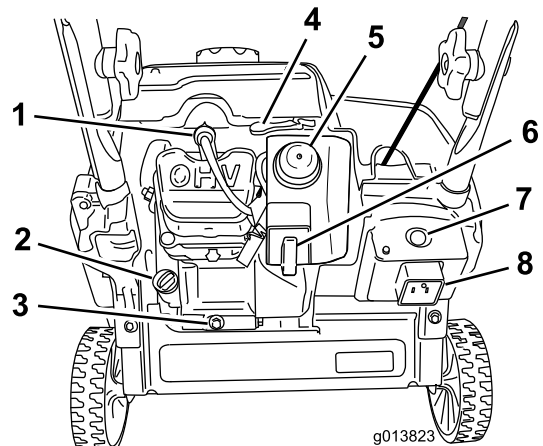

Figure 11
2. Clean around the oil fill cap (Figure 11).
3. Clean around the oil fill cap (Figure 11).